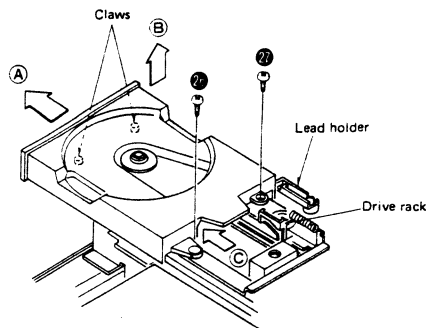

Fig. 9
3. Remove the disc holder setscrews [Fig. 9 ; ②, ⑦].
5. Push the disc holder in the direction of arrow (A) and release the 2 claws from the bottom, then remove the disc holder by lifting it in the direction of arrow (B).